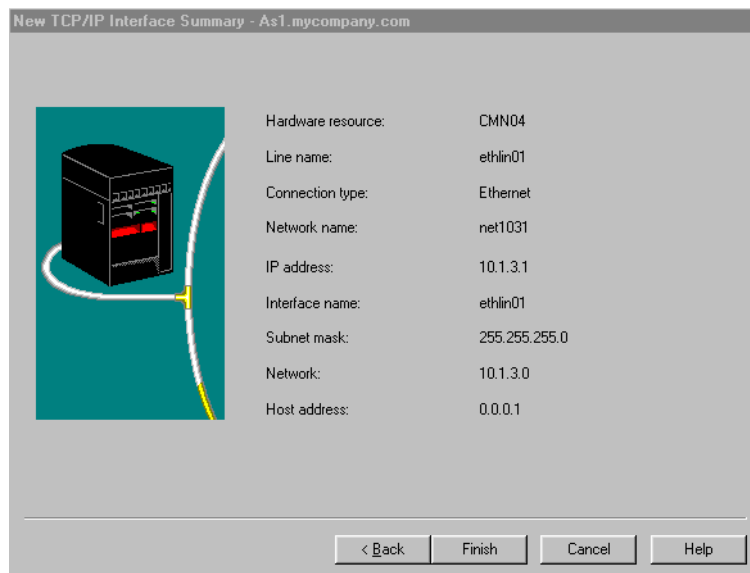

Figure 460. New TCP/IP Interface Summary
14. From the Start TCP/IP Interface window, you identify whether you want this TCP/IP interface started whenever you start TCP/IP and whether you want this TCP/IP interface to start now. If you choose to start the TCP/IP interface here, the interface begins testing when you click **Next**. After a successful test, the New TCP/IP Interface Summary window (Figure 460) appears.